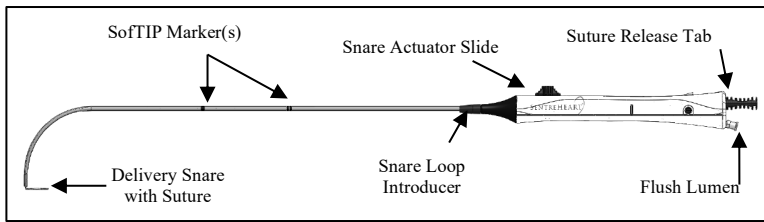

Figure 1 LARIAT RS Suture Delivery Device
The LARIAT RS Suture Delivery Device (Figure 1) is a one-piece, single-use suture delivery and deployment device with a pre-tied size 0 polyester suture loop that is pre-loaded on the device. A lumen within the LARIAT RS is designed for aspiration, flushing during the delivery, capture, or release of the LARIAT RS Suture. The SoftTIP[™] Guide Cannula and dilator, which may be used for straightening, guidance and placement of the LARIAT RS, are packaged separately.
15. Locate the red Suture Release Tab at the back end of the LARIAT RS as shown in Figure 1.